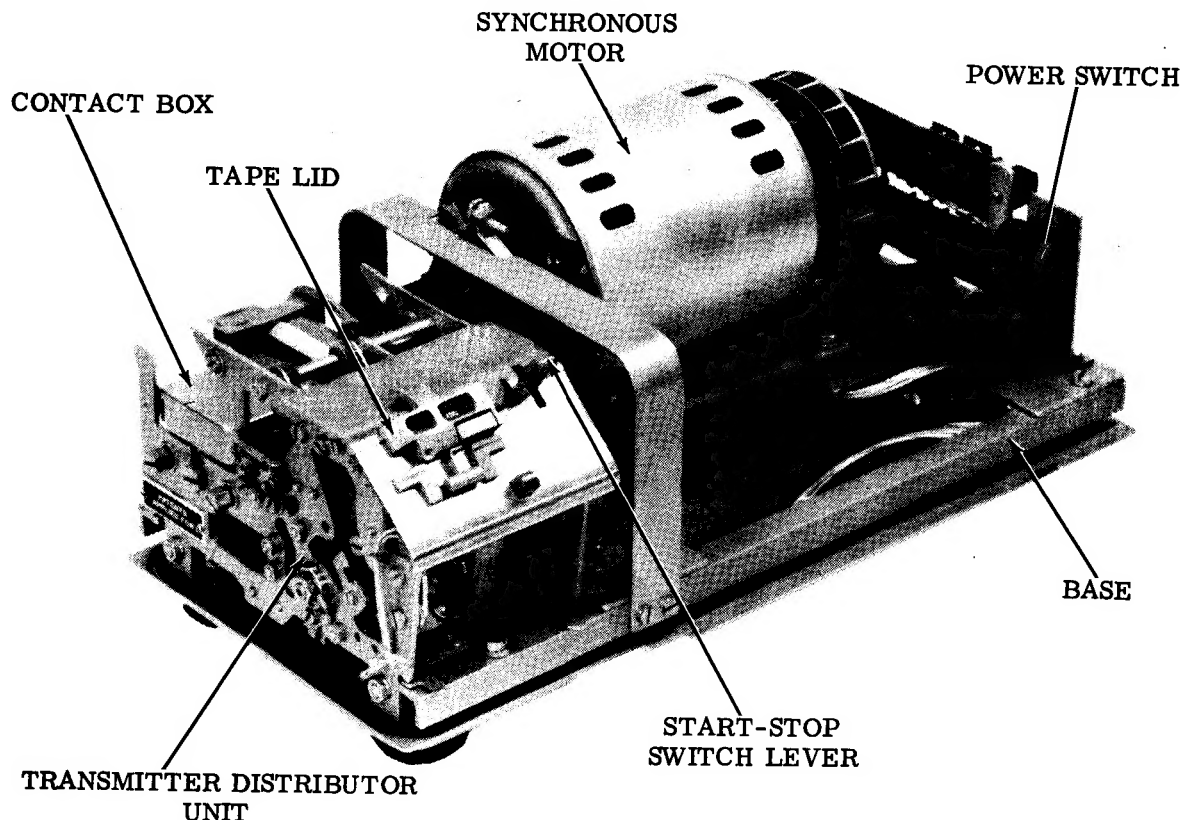

Figure 2 - Regular Size 28 Transmitter Distributor Set
3.03 The regular size single contact transmitter distributor set (Figure 2) consists of a base, a motor unit, transmitter distributor unit and a cover. The base extends a full length of the set, and is equipped with an intermediate gear assembly and vibration mounts. It serves as a mounting for a transmitter distributor unit, and a standard size 28 motor unit which may be either a 115 volt, 60 cycle, ac synchronous, or a 115 volt series governed.